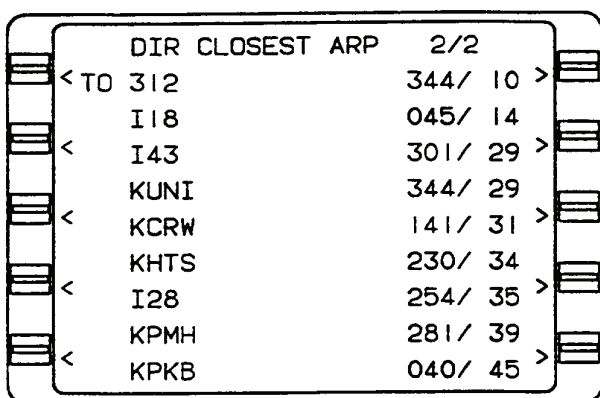

Figure 3A-50. Direct To 2/2 Page, Closest Airport
(1) *Database WPT 1/8 Page*. Refer to Figure 3A-51, Sheets 1 through 8. Database generated waypoints are automatically updated when accessed and cannot be modified by the operator. The three basic types of waypoints residing in the database are nav aids, airports, and intersections.